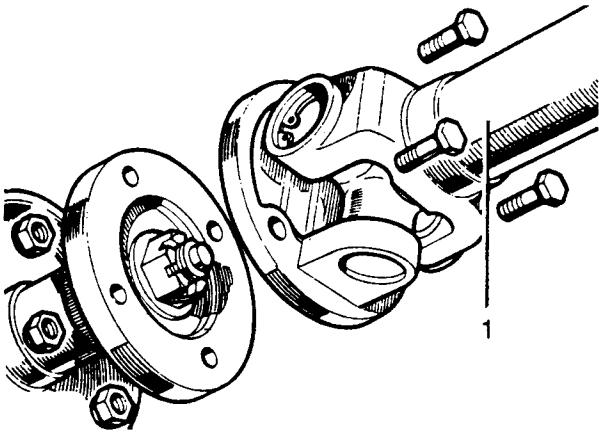

Fig H1.11
- (10) Refer to Fig H1.11. Refit the front propeller shaft (1).